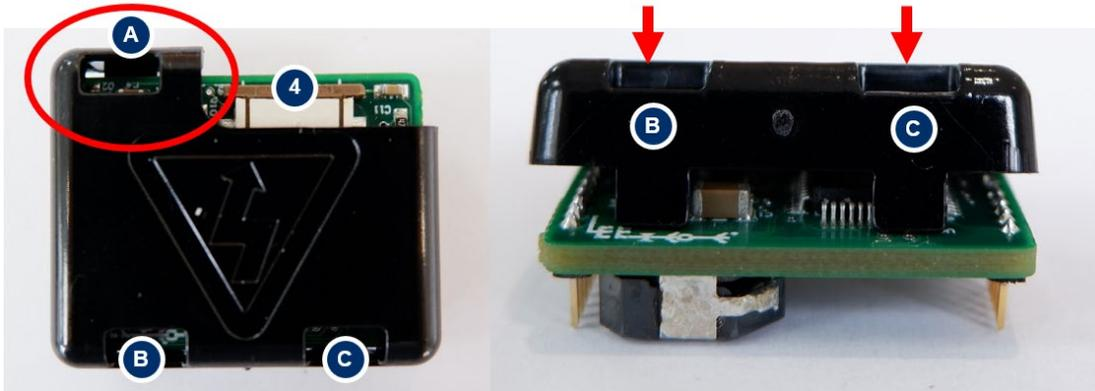

Figure 5. Fitting the protective cover to the General-Purpose Pump Drive PCB
- Hook the corner marked 'A' below so it clips over the board as shown in Figure 5, leaving the pump connector '4' accessible.